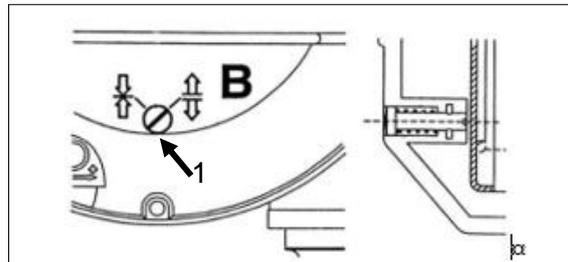

Fig. 5-3 Open position of adjustment screw
- Pulling out the cable is only possible when the adjustment screw for the blocking function of the drum is in the open position (1). See Fig.5-3.